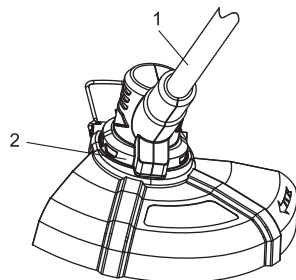

Fig. 7
1. Grasp the telescoping shaft (1) with one hand (Fig.7).
2. Unlock the shaft rotation lock by pulling up and rotate clockwise until the sleeve self locks into the 180 (2) degree setting and the trimmer head is in the vertical position.